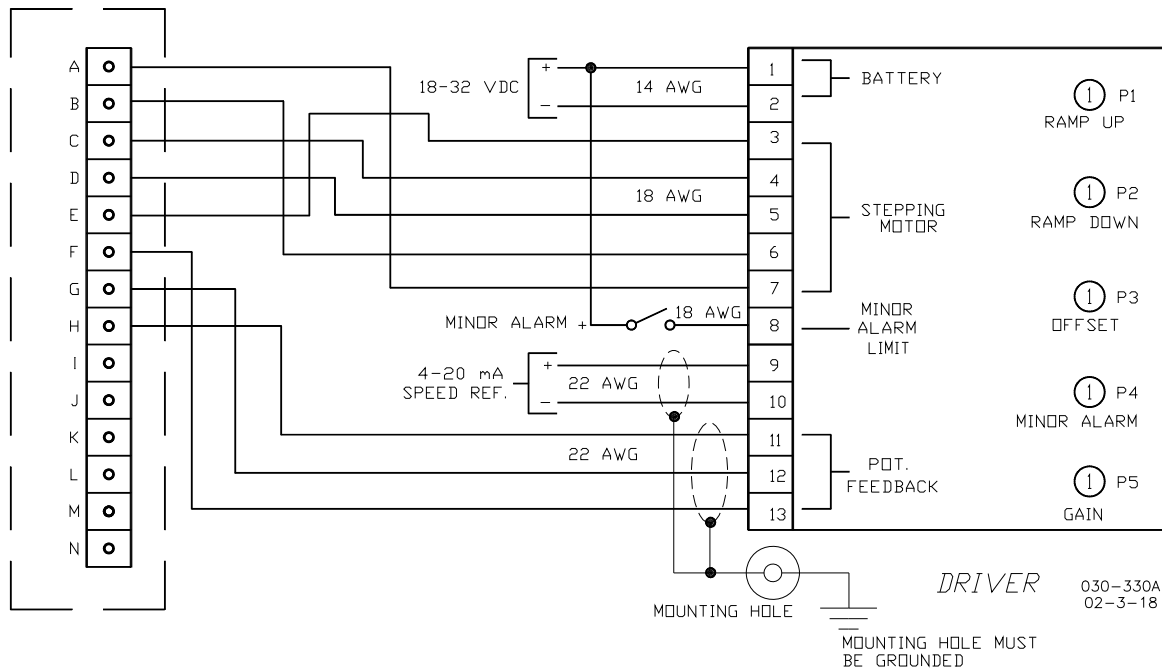

Figure 1-3. Plant Wiring Diagram
External wiring connections and shielding requirements for a typical control installation are shown in the plant wiring diagram (Figure 1-3). These wiring connections and shielding requirements are explained in the balance of this section.
All shielded cable must be twisted conductor pairs. Do not attempt to tin (solder) the braided shield. All signal lines should be shielded to prevent picking up stray signals from adjacent equipment. Connect the shields to the control terminals as shown in Figure 1-3. Wire exposed beyond the shield should be as short as possible, not exceeding 50 mm (2 inches). The other end of the shields must be left open and insulated from any other conductor. Do not run shielded signal wires with other wires carrying large currents.
Connect the 24 V power supply leads to terminals 1 and 2 of the control amplifier, positive to terminal 1, as shown in Figure 1-3.
The connections are shown in Figure 1-3.
If the minor alarm function is used, amplifier contact 8 must be wired to the alarm device so that in case of a minor alarm (such as low oil pressure or high water temperature), 24 volts is supplied to terminal 8. The supply 24 Vdc should be used to feed terminal 8 (see Figure 1-3).
6. Connect the driver to the governor as shown in the plant wiring diagram (Figure 1-3).